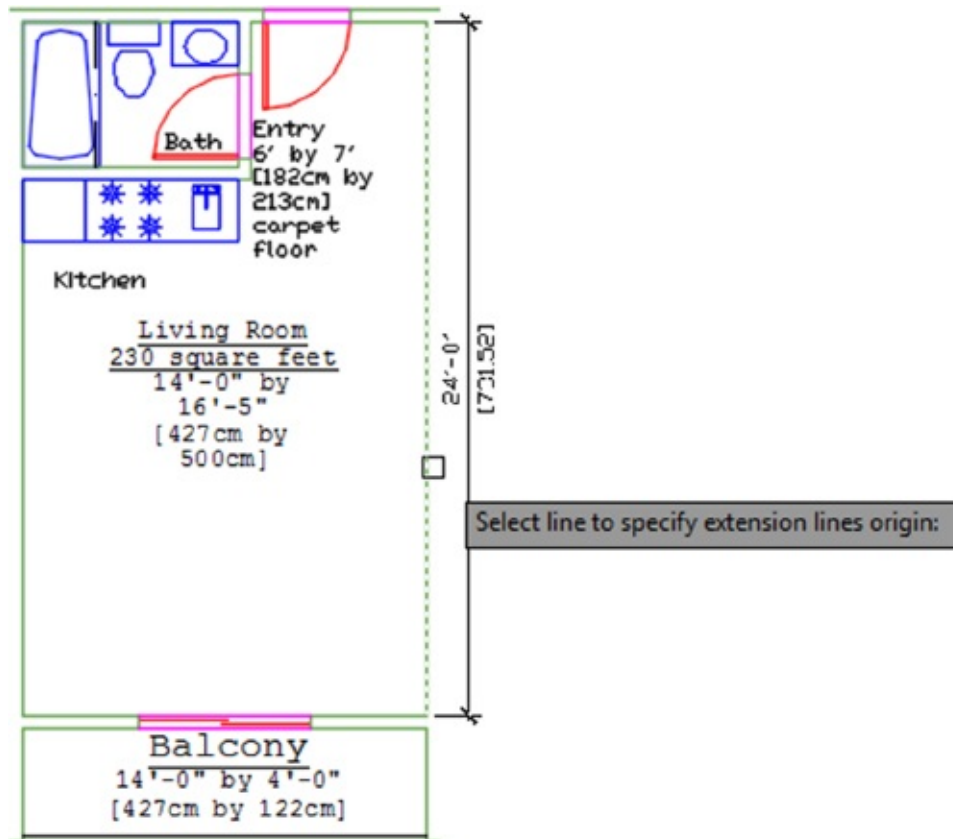

FIGURE 11.32 The temporary dimension appears as you hover over the line.
3. Hover over the line representing the interior wall on the right side of the plan. You see a temporary dimension appear (see Figure 11.32).